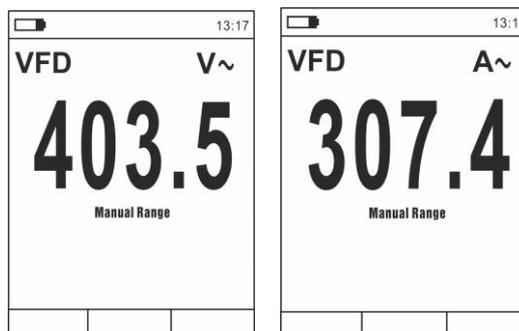

Fig. 11 Description of AC Voltage or Current measure in VFD mode
3. Long press key **MODE/VFD** selecting "VFD" mode (see Fig. 11)